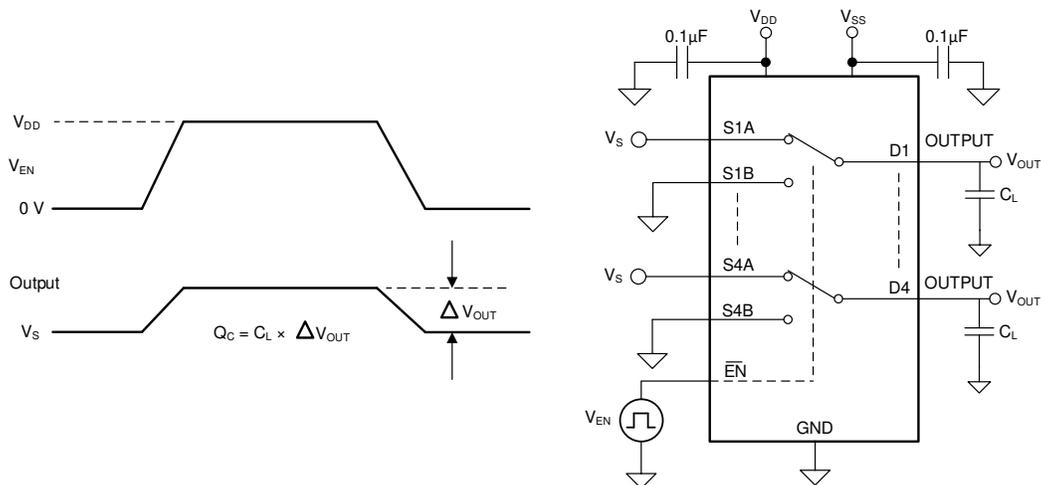

Figure 7-7. Charge-Injection Measurement Setup
The TMUX1133 has a transmission-gate topology. Any mismatch in capacitance between the NMOS and PMOS transistors results in a charge injected into the drain or source during the falling or rising edge of the gate signal. The amount of charge injected into the source or drain of the device is known as charge injection, and is denoted by the symbol Q_C . Figure 7-7 shows the setup used to measure charge injection from source (Sx) to drain (D).